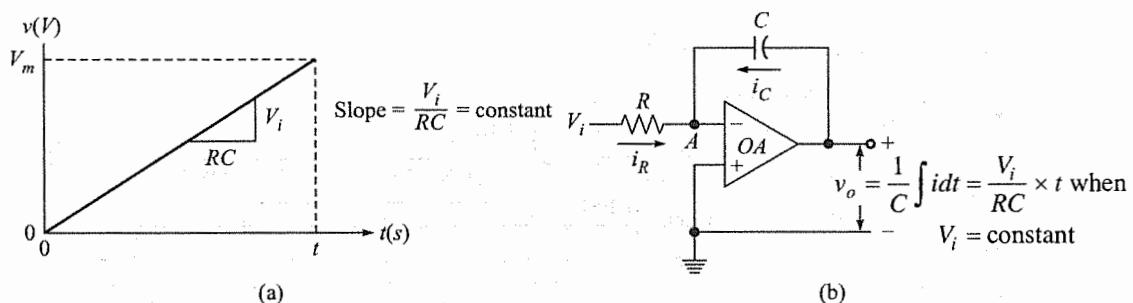

Fig. 12.33 An integrating circuit
- 12.21 Calculate a value for  $C$  in Fig. 12.33 to obtain a fixed slope  $V_i/(RC) = 1000$  V/s, given  $V_i = 1.0$  Vdc and  $R = 100$  k $\Omega$ .